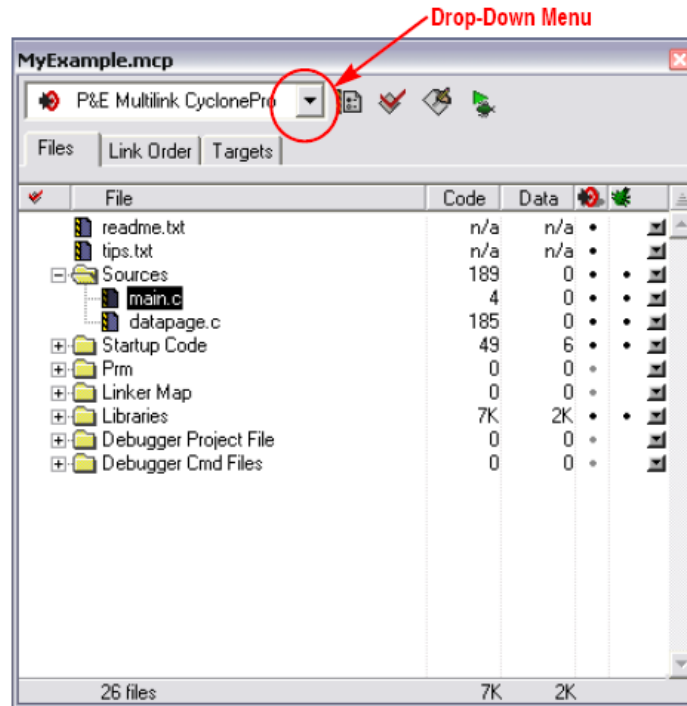

Figure 13. CodeWarrior Project Window
- t) Click Finish — the wizard creates a new project based on information you specified. A project window will appear, docked at left side of main window (see Figure 13).
- a) Click the drop-down menu of the project window (see Figure 13).
- a) Click the + sign next to the sources folder to reveal files (see Figure 13).